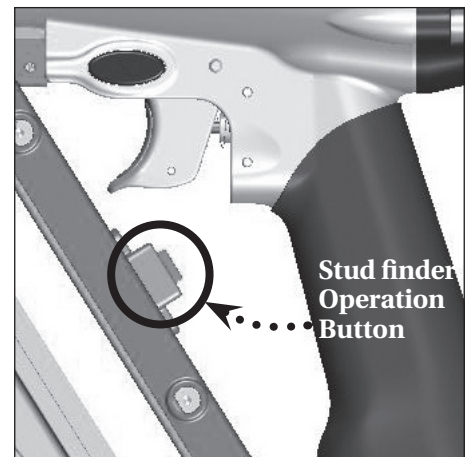

Figure 22 - Stud finder Operation Button
5. Barely press the tip against the wall where no stud is nearby. Press the stud finder operation button and hold (See Figure 22). Stud finder "plate" should be flat against the wall.